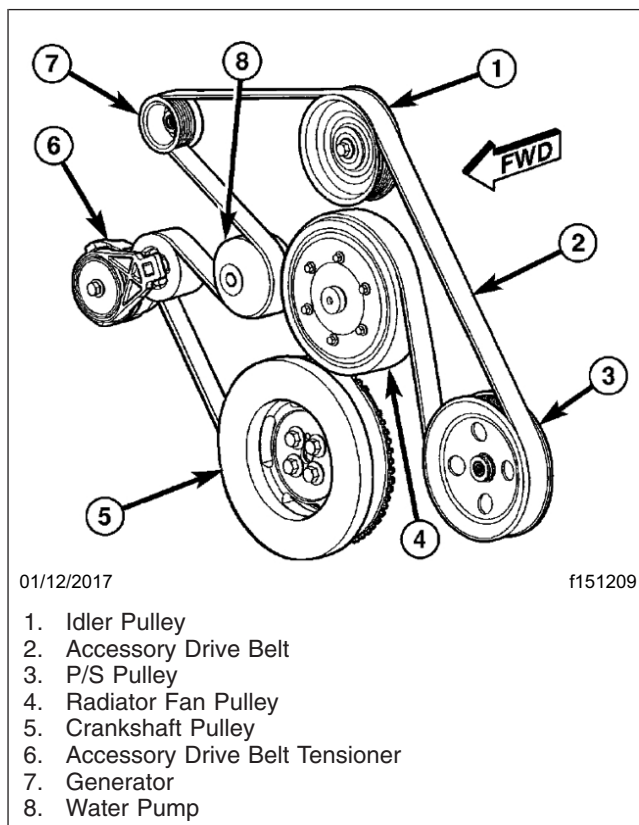
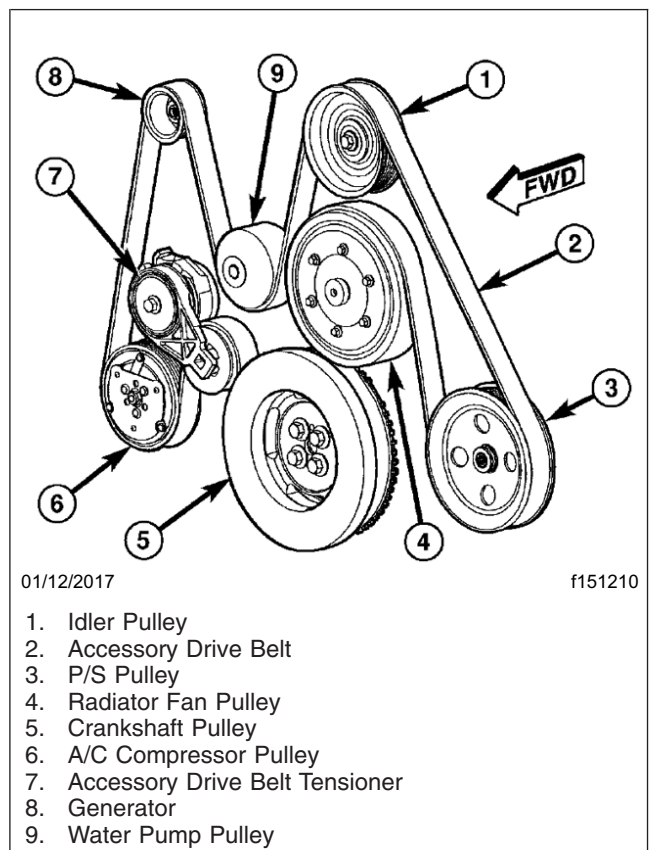

Fig. 3, Belt Routing-Diesel Engine Without A/C
Fig. 4, Belt Routing-Diesel Engine With A/C
14. Carefully install the accessory drive belt. See **Fig. 3** for vehicles without A/C or **Fig. 4** for vehicles with A/C.